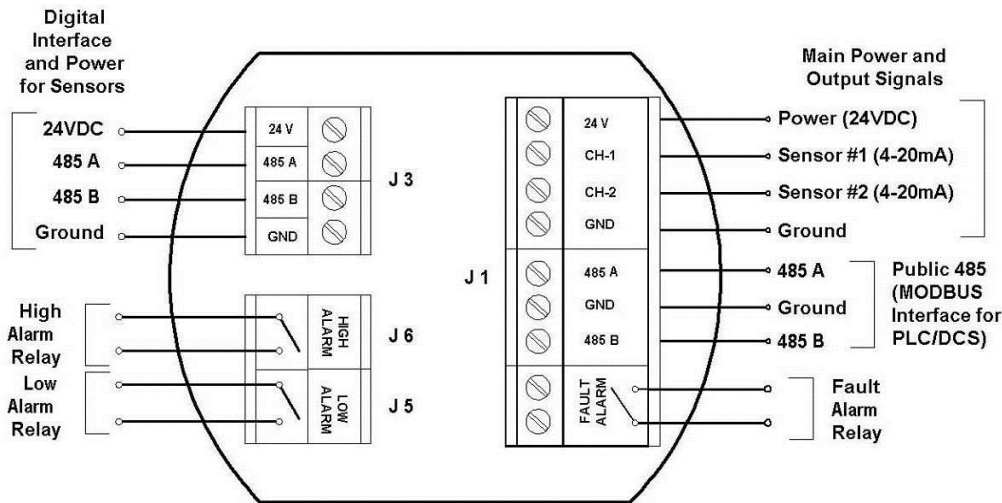
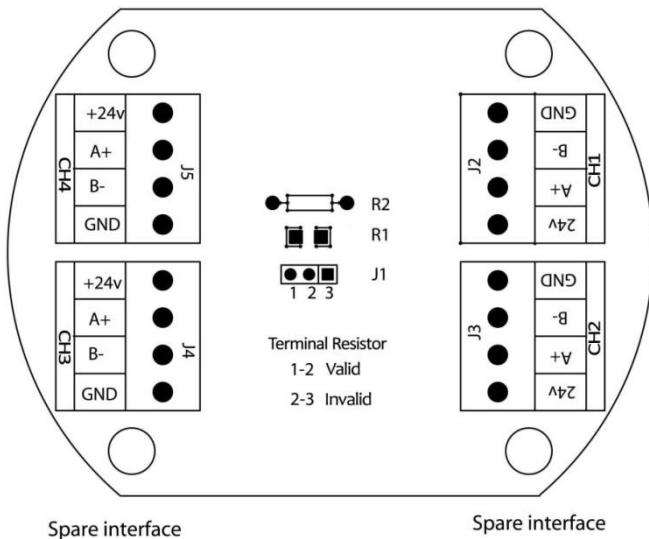
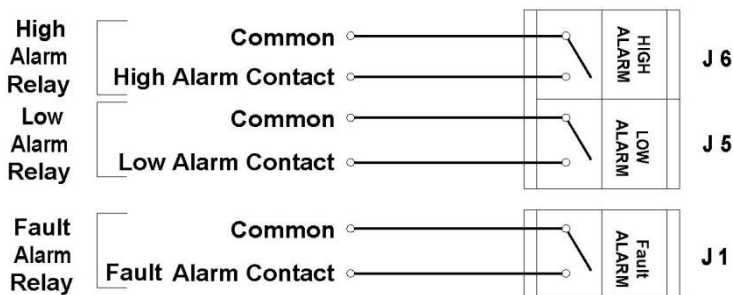

Figure 2-4 Electronics Module for **iTRANS-2** (Main Unit)
Figure 2-5 Electronics Board for **TRANS-2** Remote Sensor
Figure 4-1 Alarm Relay Connectors J6, J5 and J1
The electronics module of the **iTRANS-2** gas monitor contains connectors and jumpers for wiring and configuring the device. The electronics module for a main **iTRANS-2** unit is shown in Figure 2-4. The electronics module for a remote unit is shown in Figure 2-5. Wiring details are explained in Chapter 4 | System Wiring.
To connect the **TRANS-2** control wires to the three relay terminals on the relay board, wire the unit to the connectors shown in Figure 2-4. The low alarm relay is activated when the low alarm threshold is met. This is a non-latching, Normally Open (NO) contact. The high alarm relay is activated when the high alarm threshold is met. This is a non-latching, Normally Open (NO) contact. The fault alarm relay is activated upon power-up of the **TRANS-2**. When the fault condition is met, the circuit opens. This is an Electronically closed (NC) contact. See Figure 4-1 for relay wiring.